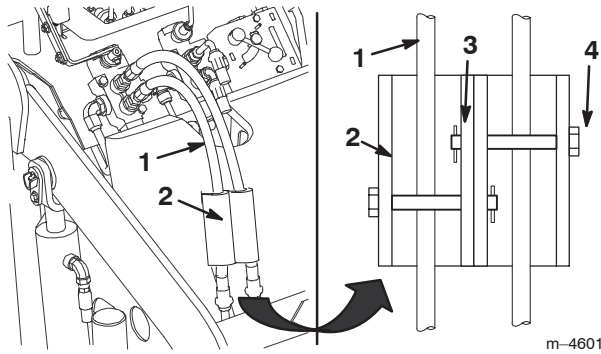

Figure 15
- Install the cylinder locks over the hydraulic hoses and secure them with the clevis pins and cotter pins (Fig. 15).